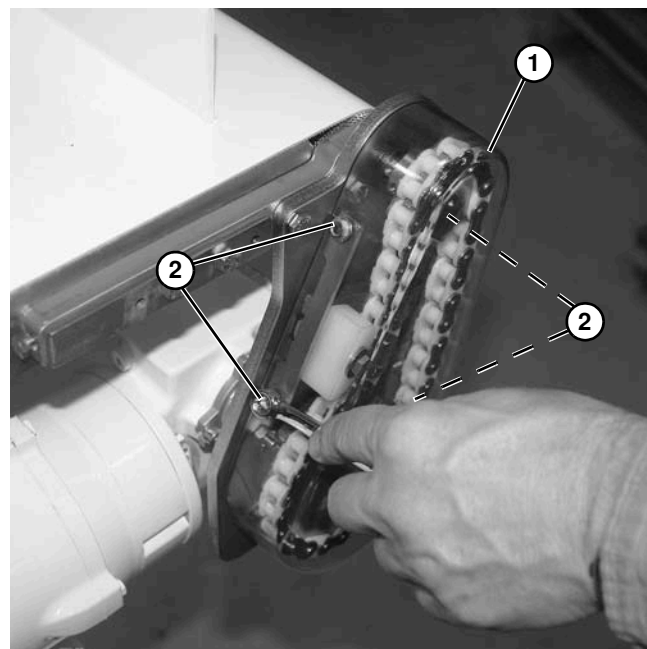

Figure 60
*Do not over-tighten screws (**Figure 60, item 2**).*
12. Install cover (**Figure 60, item 1**) and tighten four screws (**Figure 60, item 2**).